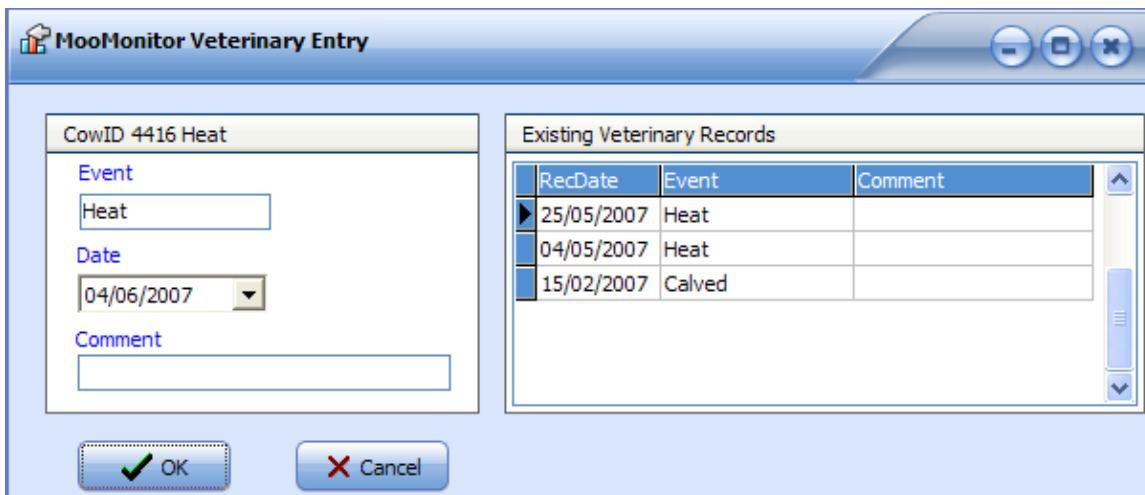

Figure 24 MooMonitor Veterinary Entry screen.
- Then select the ‘Cancel’ button in Figure 24.